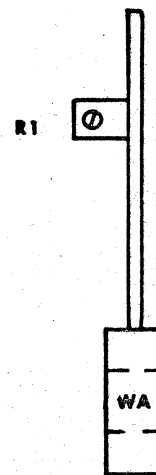

Figure 5-4
- Step 2: Adjust potentiometer R1 on the center track Write Deskew board (Figure 5-4) to its center position. (Turn the adjusting screw clockwise to the end of its travel, back off twelve and one-half revolutions.)